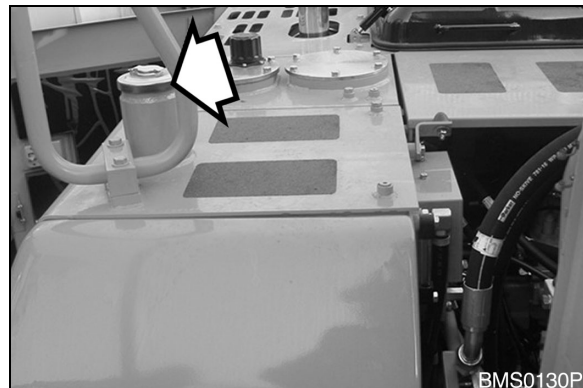

Figure 5
12. Clean the area around fuel tank fill cap (Figure 5). Open fuel cap.